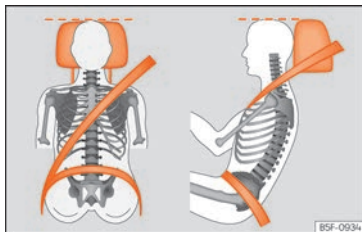

Fig. 4 Correct belt web and headrest positions
- Adjust the headrest so that its upper edge is at the same level as the top of your head, or as close as possible to the same level as the top of your head and under no circumstances below eye level. Keep the back of your neck as close as possible to the headrest » **Fig. 4.**